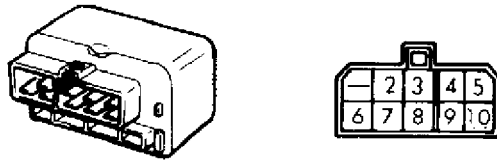

Fig. 7: MPI Control Relay Connector ID (1.6L)
1) For relay location, see MPI CONTROL RELAY LOCATION table. Check for battery voltage at terminal No. 10 of relay connector. See Fig. 7. If battery voltage is present, go to step 3). If battery voltage is not present, check circuit between relay and battery, including fusible link No. 1. Go to next step.